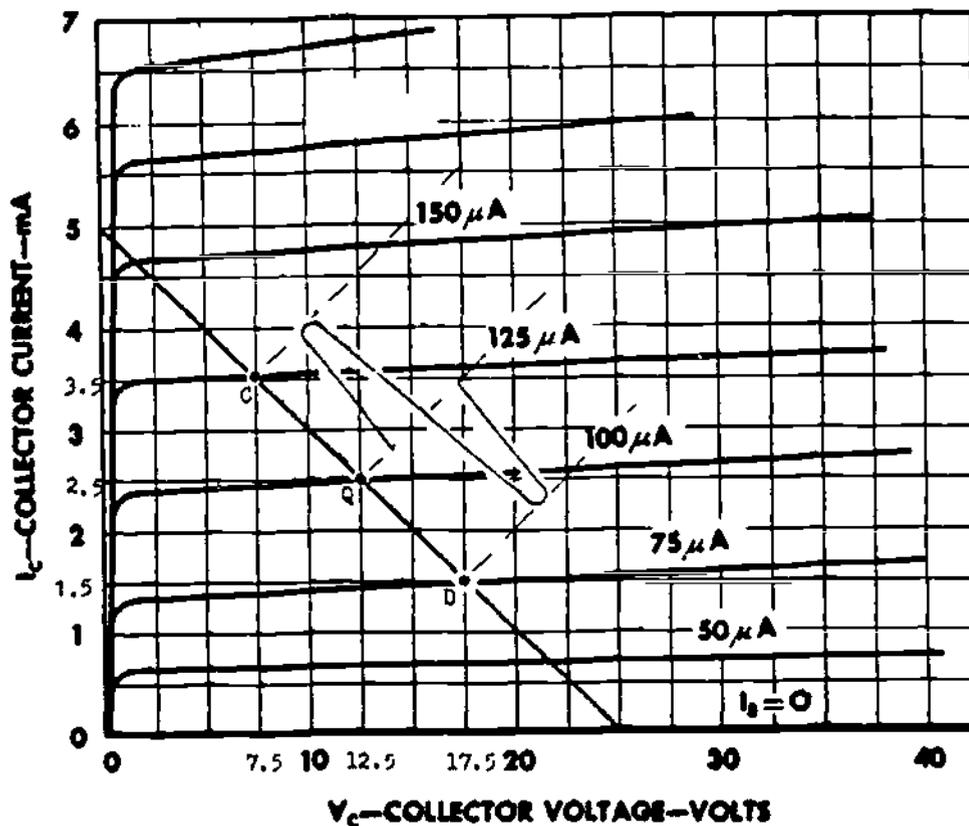

Figure 3-11. Common Emitter Characteristics
where the $I_B = 125 \mu\text{A}$ curve crosses the load line (point C in Figure 3-11). The instantaneous operating point moves up along the load line to point C as the base current increases, then back down, as base current decreases, to the static operating point Q.
the input), the instantaneous operating point moves down along the load line to point D (Figure 3-11). At point D the base current reaches its minimum value of 75 μA ; then moves back up the curve again to the static operating point Q ($I_B = 100 \mu\text{A}$). The total change in base current, which is called ΔI_B , is 50 μA ($125 \mu\text{A} - 75 \mu\text{A} = 50 \mu\text{A}$).
3-39. Figure 3-11 illustrates the effect of the input signal on the output current (I_C). At the operating point note that the I_C is 2.5 mA. This is found by drawing a line parallel to the horizontal axis at the operating point (Q). This line will cross the vertical axis (I_C) at the 2.5 mA level. At the peak of the positive alternation of the input signal, the base current is increased to 125 μA , located on the load line at point C. The collector current at point C is 3.5 mA. At the peak of the negative alternation, I_B decreases to 75 μA , located on the load line at point D. The decrease in I_B will
3-41. Figure 3-11 also illustrates the effect of the input signal on the output voltage (V_C). At the operating point, the static V_C can be found by dropping a line from the operating point perpendicular to the horizontal axis. This line crosses V_C at 12.5 volts. At the peak of the positive alternation of the input signal, the base current increases to 125 μA , located on the load line at point C. A line dropped from point C would indicate a decrease in collector to emitter voltage from 12.5 volts to 7.5 volts. At the peak of the negative alternation of the input signal, I_B decreases to 75 μA (point D) and the collector to emitter voltage would increase to 17.5 volts. The total change in collector to emitter voltage is called ΔV_C and is equal to 10 volts (17.5v - 7.5v = 10 volts). From your analysis of the effects of the input signal or transistor operation, this important fact should now be more evident. As I_B increases, I_C increases, and V_C decreases.
Current Gain = $\frac{\text{output current change}}{\text{input current change}}$. This current gain under operating conditions is called CURRENT GAIN (A_i). The A stands for gain and the subscript "i" stands for current. The total output current change (ΔI_C) in the circuit we have been discussing is 2 mA (Refer to Figure 3-11 and Step 4). The total input current change (ΔI_B) is 50 μA (Refer
The total output voltage change (ΔV_C) we found to be 10 volts. (Refer to Figure 3-11 and Step 5). The total input voltage change (ΔV_{BE}) is .15 volts. (Refer to Figure 3-12B and Step 3). The voltage gain is: